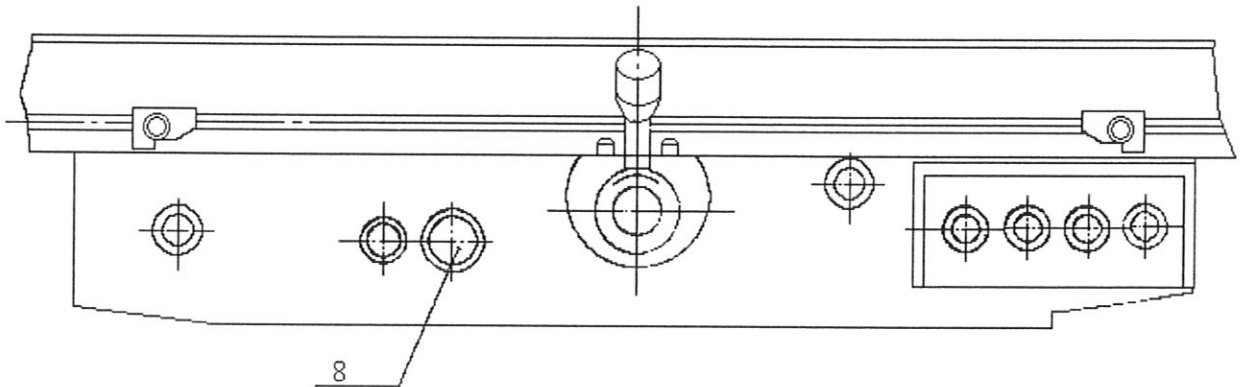

Fig. 26 Clearance adjustment between lead-screw and nut
7.4 Clearance adjustment of longitudinal lead-screw & screw nut.(see Fig.26)